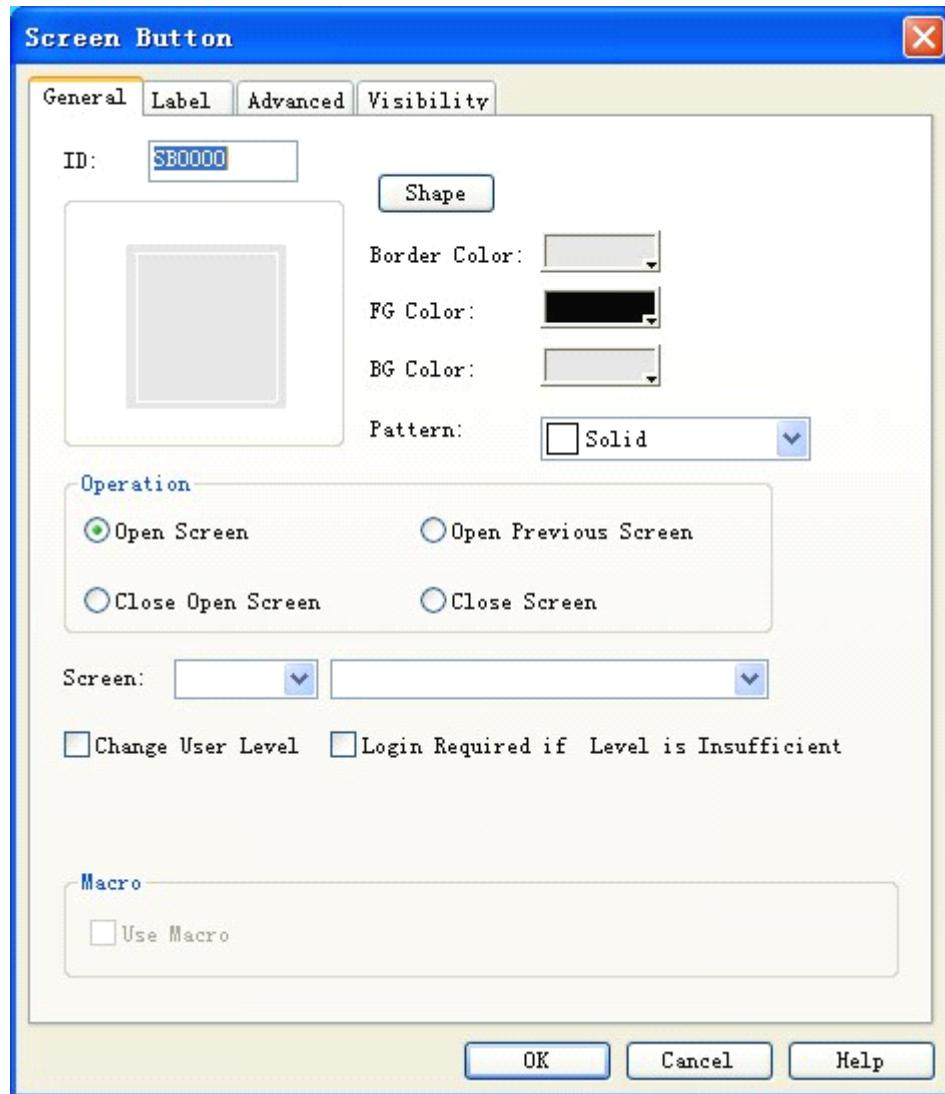

Figure 4-61: Screen Button dialog
- Click Screen Button icon in the tool bar, and then a dialog as shown in Figure 4-61 will pop up.